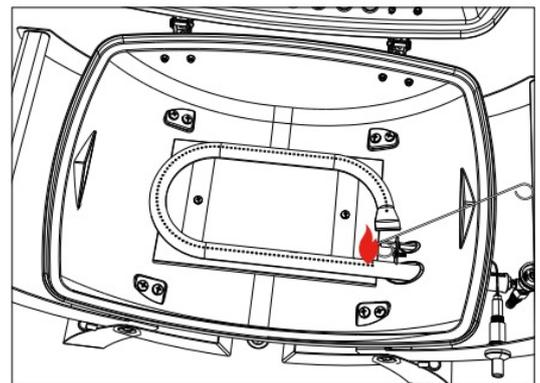

Figure 2
3. Once lit, place the flame through the cooking grid slots to reach the burner ports, see figure 2.